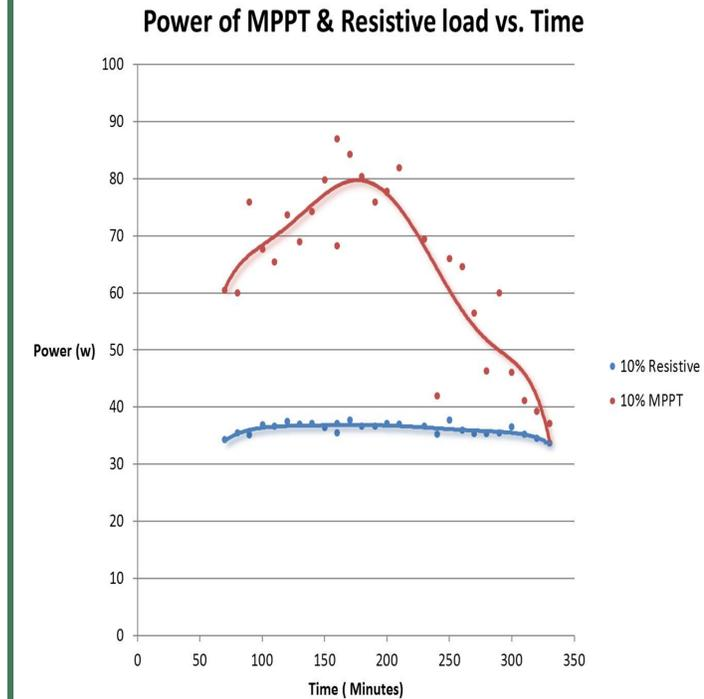

Figure 4: Comparison between MPPT and resistive load
**Figure 4** shows a comparison in terms of the power extracted between a resistive load and an MPPT system. The power of MPPT is always superior to that in a resistive load.